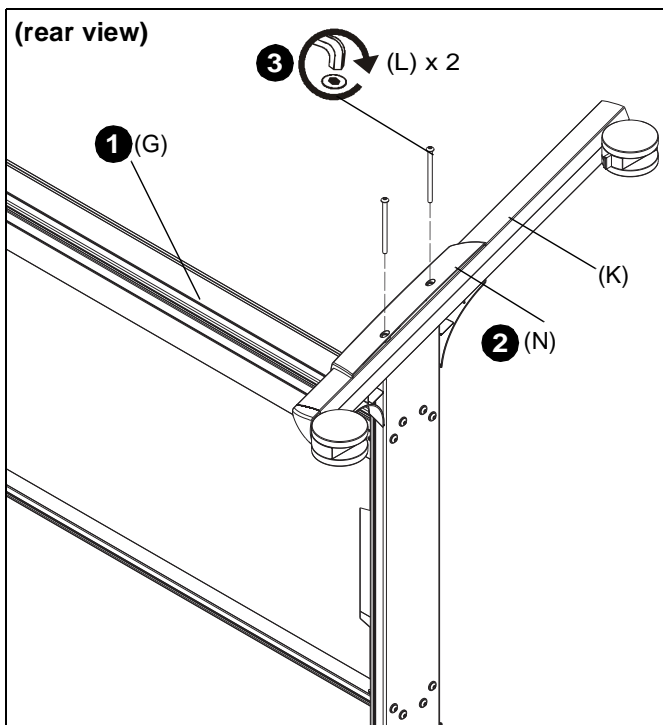

Figure 1
1. Carefully set column assembly (G) on its left side. (See Figure 1)
2. Place right transition cover (N) on right cart leg (K), lining up the holes on the cover with the holes on the leg and column assembly base. (See Figure 1)
3. Use two 5/16-18 x 3 3/4" button head cap screws (L) to secure leg (K) and cover (N) to column assembly (D). (See Figure 1)